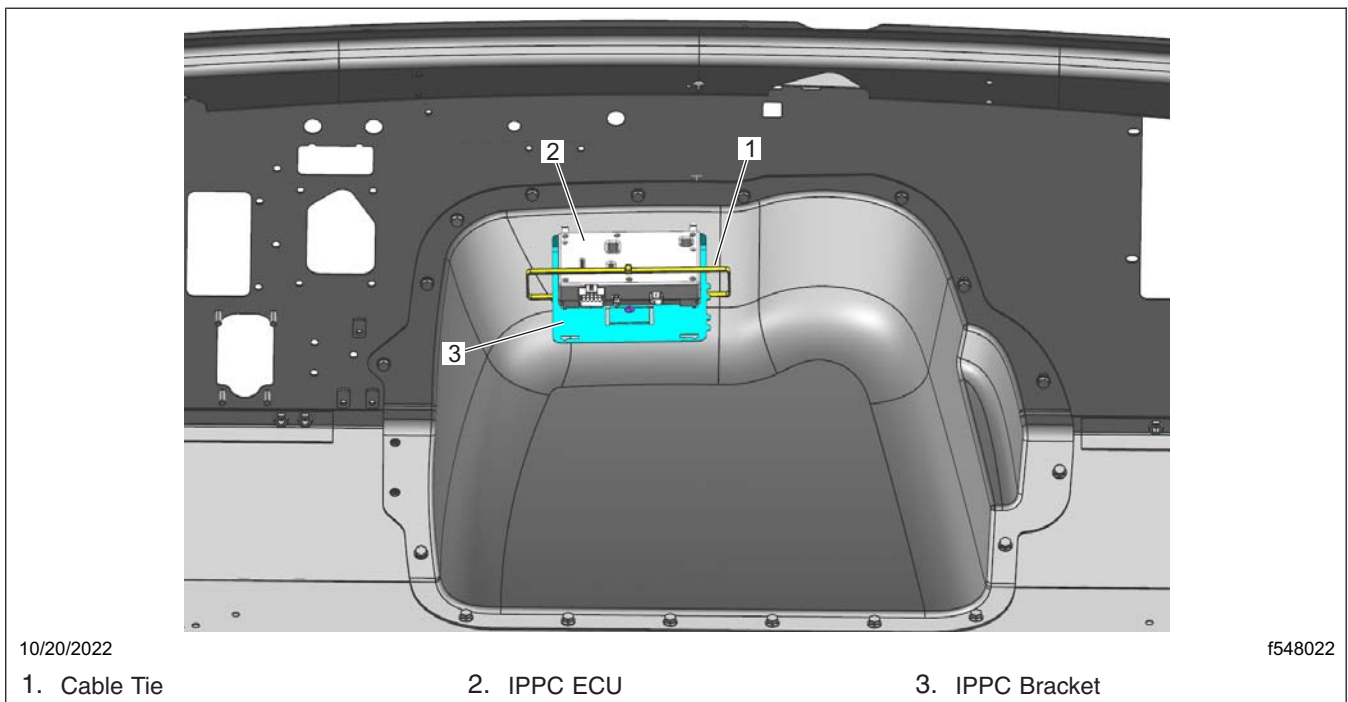

Fig. 24, Securing the IPPC ECU using a Cable Tie
**YES** → Install the new IPPC ECU (000 446 41 75) on the IPPC bracket, then secure the IPPC ECU with a cable tie. See Fig. 24.